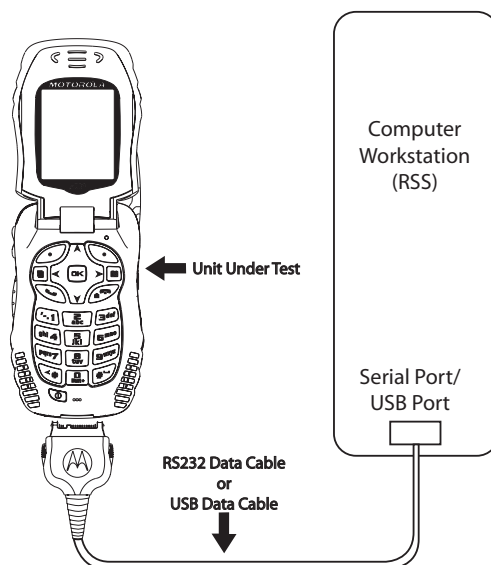

Figure 6-1. Data Cable Programming Setup
To connect the unit to a PC using the iDEN RS-232(serial) or USB data cable (Figure 6-1):
1. Set up your test equipment configuration. See Figure 6-1 for an illustration of this configuration.